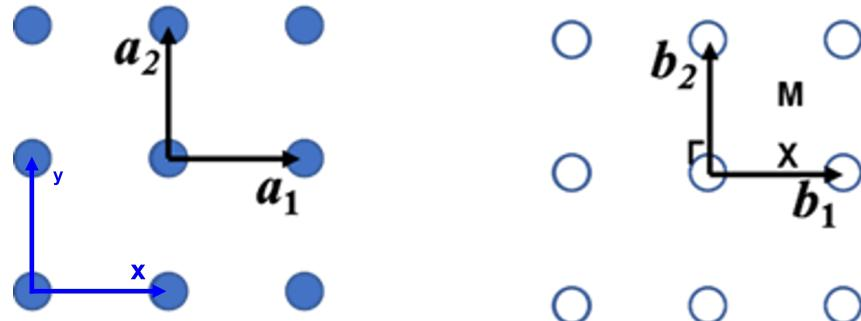
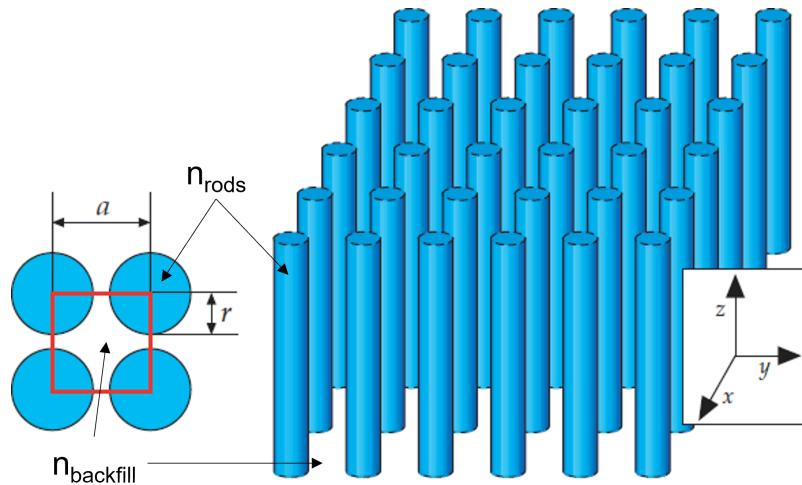

Figure 4.4: The real space and reciprocal space lattice of the square lattice.
Figure 4.6: The square lattice geometry.
Figure 4.4 shows a simple *square lattice*. The *direct lattice* vectors are defined as follows:
1. Draw the following on top of figure 4.4:
We are now going to compute the photonic band structure of a two-dimensional square lattice of dielectric rods in air, based on the geometry defined in figure 4.4 and figure 4.6. The parameters will be as follows: